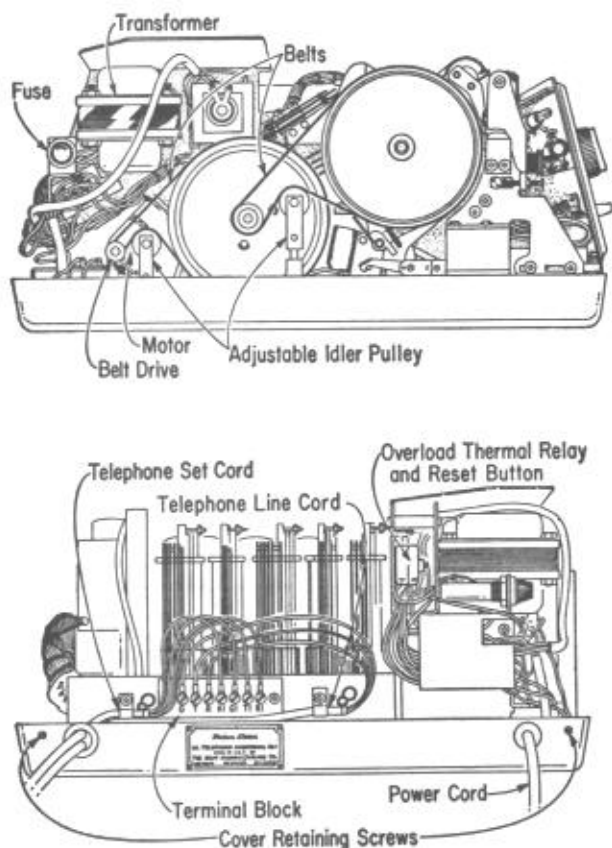

Fig. 2 — 1A Answering Set, Side and Rear View
3.04 The sets is protected by means of a 2-amp fuse which is located inside the cover of the set at the left rear corner near the motor (Fig. 2). Should the machine fail to operate and the Bell System medallion not light, this fuse should be checked. The fuse is a 2-amp, No. 312002, Littelfuse or equivalent.
3.05 An overload thermal relay is also used to protect the erasing coils in case of failure of operating contacts to open. Such a failure would cause the relay to operate, opening the main power supply circuit. If the machine fails to operate after checking the power supply and fuse, press the reset button on the relay (Fig. 2). The erase coil
5. Insert telephone set mounting cord through split rubber grommet and terminate on answering set connecting block as shown in Fig. 2. It may be necessary to cut the rubber grommet. A 4-conductor cord must be substituted for existing telephone set mounting cord in all cases.
6. Use a suitable mounting cord between the 42A connecting block or 531C subscriber set and connecting block in the answering set. Mount 531C subscriber set as covered in the C Section covering station sets. Terminate as shown in Fig. 2.